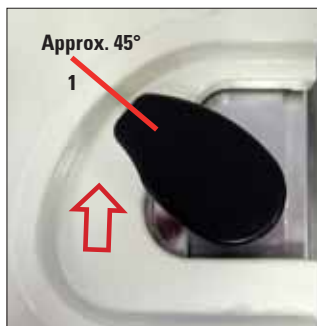

Fig. 72
- Turn the retort lock clockwise to the stop at approximately 45° (Fig. 72, 1) and release.